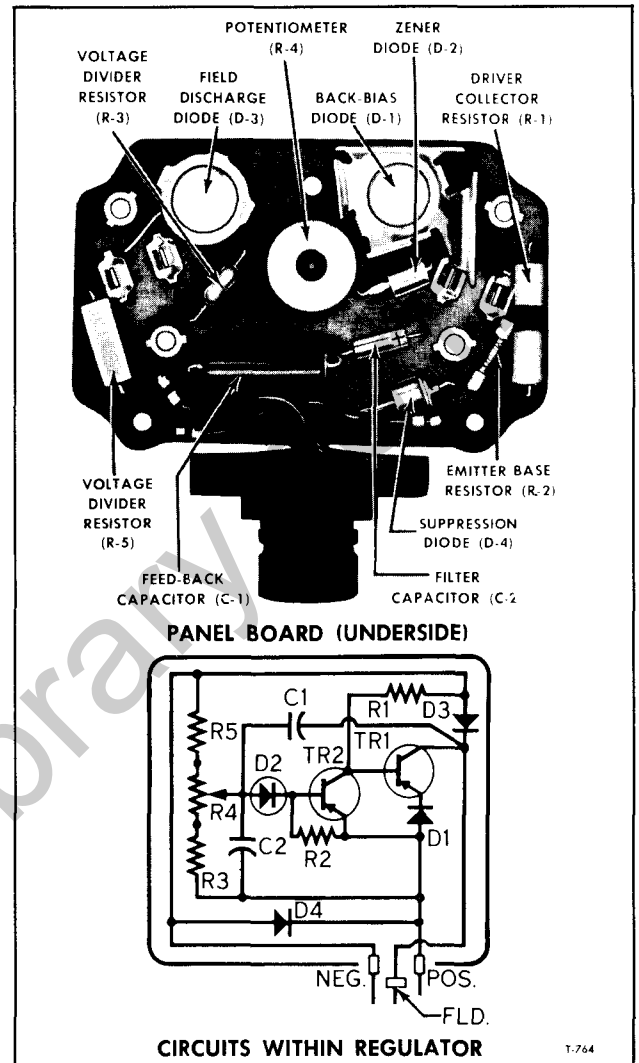

Figure 28—Under Side of Panel Board Assembly
3. To aid in reassembly, note or make any identifying markings on the two transistors and their respective locations on the panel board and heat sink assembly (fig. 28).
and the heat sink, and the insulators separating the heat sink from the panel board (fig. 28).
If both readings are zero, the capacitor is defective. Visually inspect for open soldered connections and broken leads. To assemble a new capacitor properly, note location of the "+" identifying mark in figure 28.
NOTE: When installing a new potentiometer, locate the adjusting lever in a vertical position (fig. 28), turn the potentiometer resistance adjustment to the middle position, then use a soldering iron to melt the lever into potentiometer.